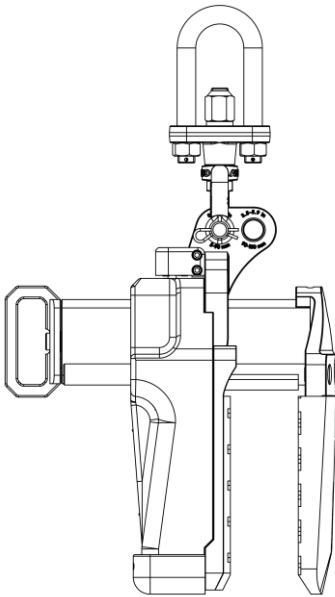

Figure 1.1: Position 1
- + Hook the Swivel Shackle at position 1 when the slab thickness is from $\frac{3}{16}$ " (5 mm) to $3 \frac{9}{16}$ " (90 mm) (Figure 1.1).